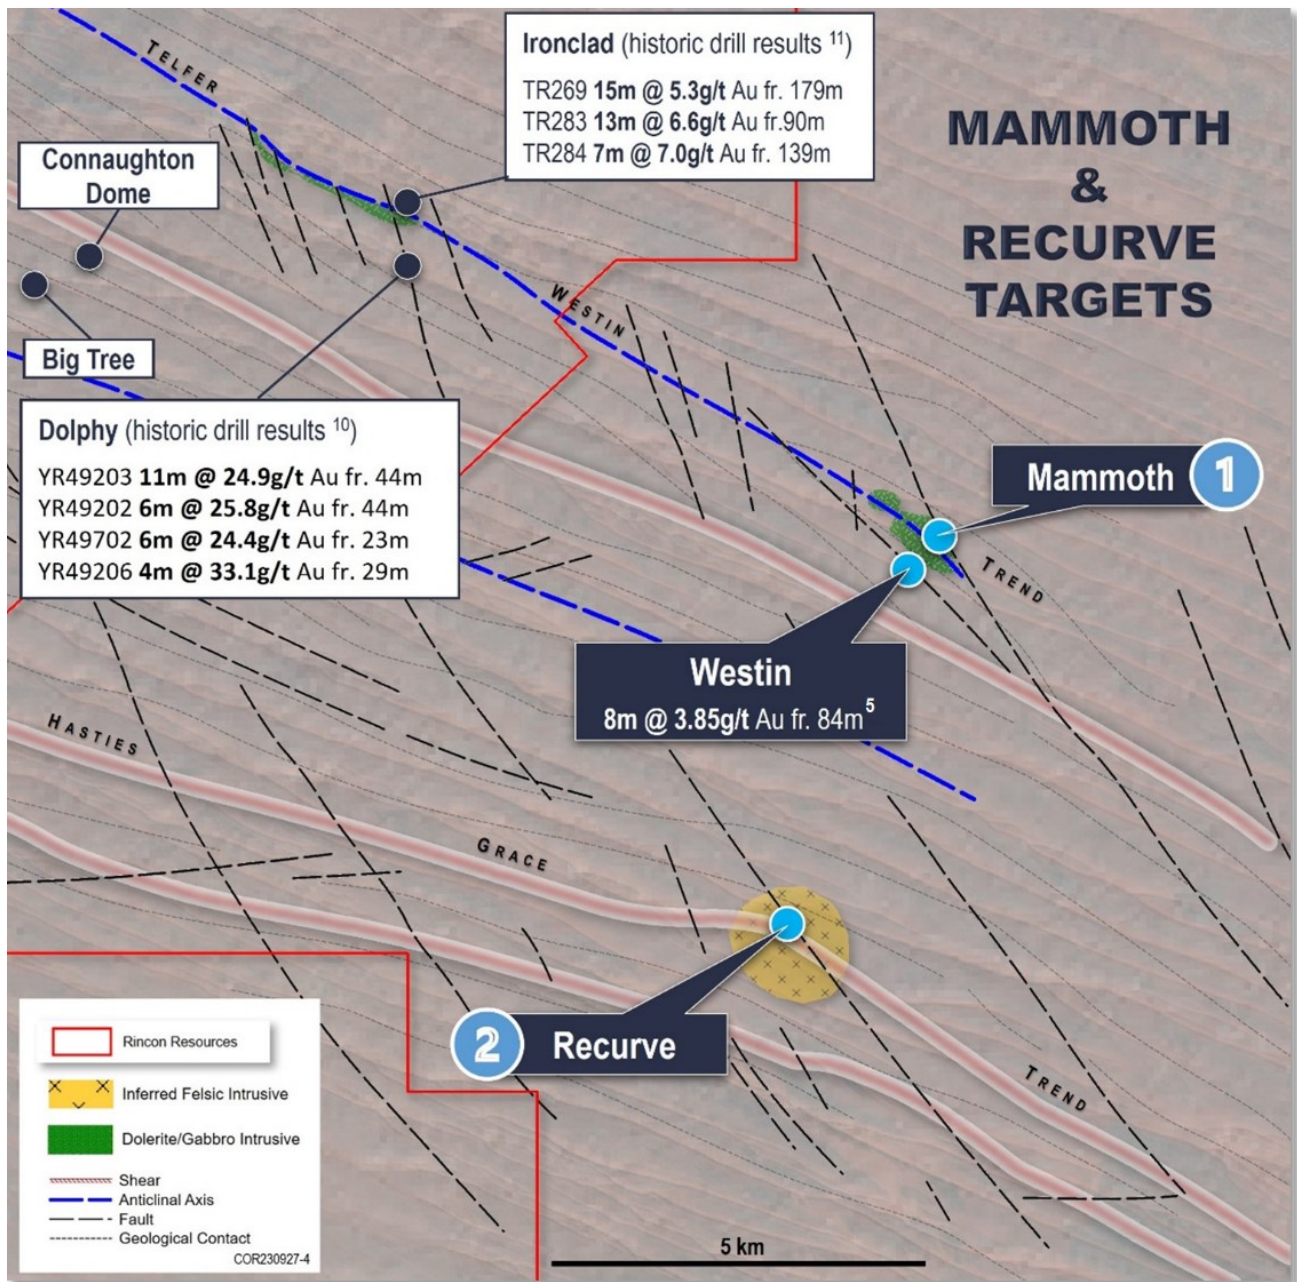

Figure 2 – Map of the Mammoth, Westin⁴ and Recurve Target areas.
2. 'Westin' is just 700m southwest of the 'Mammoth' dolerite and the related structural setting currently being tested with RC drilling (refer to Figure 2);
3. The high-grade intercept in WSA08039 is thought to be associated with northwest trending structures like those seen at the nearby Ironclad and Dolphy deposits (Newcrest Mining) (refer to Figure 2);